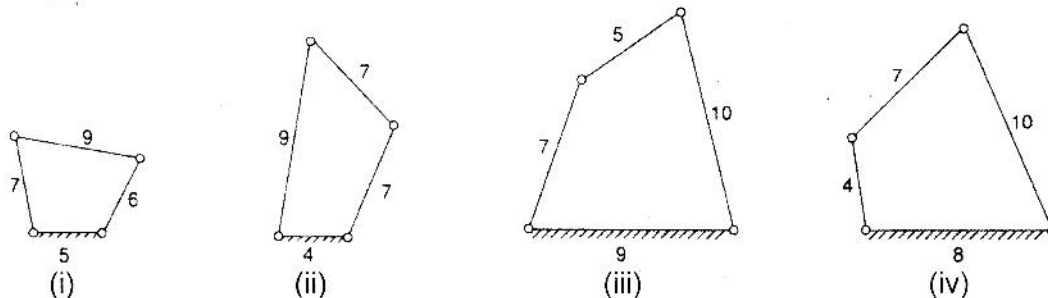

Figure 2
3. a) Indicate the type of each mechanism in the figure 2 (whether crank-rocker or double rocker or double crank). Dimensions are given in standard units of length.